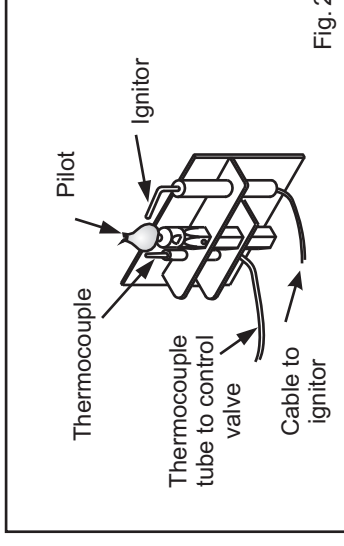

Fig. 2
- To light the appliance manually first light a match or barbecue lighter. Push the control knob in and turn it anticlockwise to the ignite position whilst holding the knob pushed in. Whilst still holding the knob in, offer the lit match or barbecue lighter up to the pilot light (see Fig. 2). This will ignite the pilot. Once the pilot is lit follow the instruction above to ignite the fireplace burner and adjust the heat setting